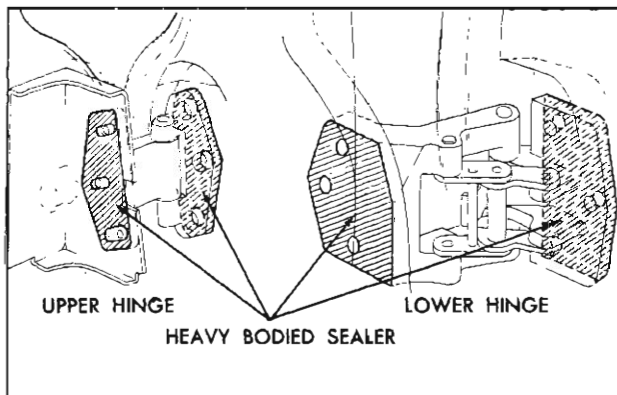

Fig. 46—Door Hinge Assemblies
2. Apply a coat of heavy-bodied sealer to attaching surfaces of hinge straps or corresponding surfaces of door or body (fig. 46).